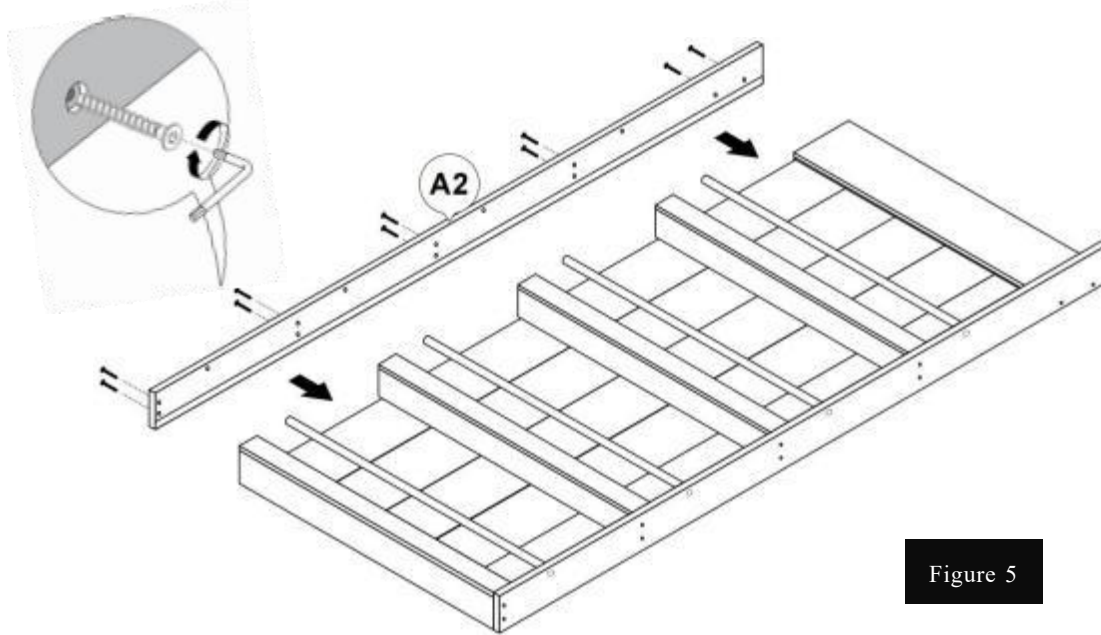

Figure 5
- According to Figure 5, Align and install the A2 with the assembled shelf door. There are 5 positions, each requiring two carriage bolts to fix and tighten with an alley key.